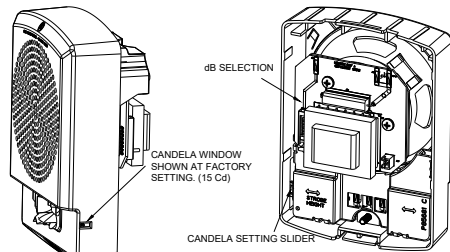

Figure 4: Candela and dBA Settings
- Verify appliance settings are correct for your application. Selector switch locations are shown in Figure 4. Strobe settings are 15cd, 30cd, 75cd, 110cd, 135cd, 185cd. Speaker Setting Chart is shown in Table 4. Factory settings are (F) 70V, 1/2W and 15cd.